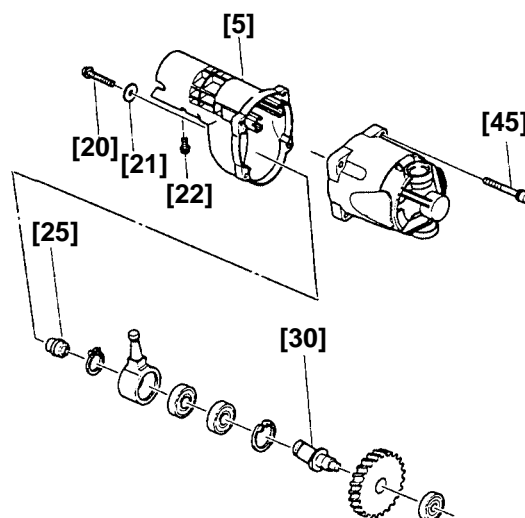

Fig. 2
(2) Removal of Gear Cover (B) **[5]** (Figs. 2 and 3)